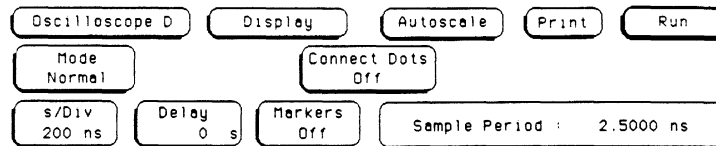

Figure 3-19. Display Configuration:
- c. Configure **Display** screen as shown in figure 3-19.